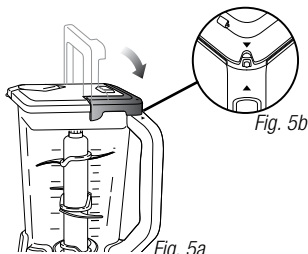
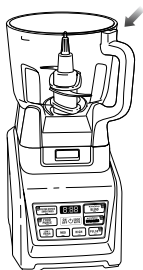
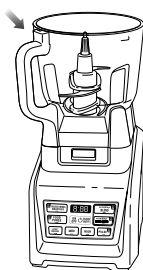

Fig. 5b
Fig. 5a
Fig. 5b
- 9 Holding the lid by the handle in the upright position, place it on top of the pitcher aligning the triangle (▼) located on the lid with the triangle (▲) located on the pitcher's handle. **(Fig. 5a)** Press the handle down until you hear a click. The triangles on the lid and the blender handle **MUST** be aligned in order for the blender to turn on. **(Fig. 5b)**
- 7 The bowl can be placed on the motor base two ways; the handle can be on the front right corner or the front left corner. (Fig. 5a, Fig. 5b)